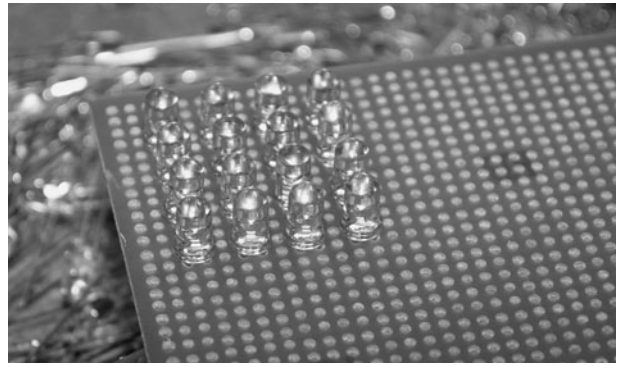

Figure 6-3 Using 5-mm LEDs, you can make an array with 16 LEDs per square inch.
Because the spacing on most prototyping boards is the same as the spacing on standard dual in line chip packages, you will be able to insert the 5-mm LEDs to create arrays with 16 LEDs per square inch, skipping one hole between each LED. Using 3-mm LEDs would allow insertion without skipping a hole, but this size of LED is almost impossible to find with an infrared output. Your array can also have any number of rows and columns, but usually a square is best for the most even field of view. Another idea is to base the size of the array on the wiring requirement, using the number of LEDs in series as the width or depth of the array. For instance, if you have 1.2-volt (V) LEDs, and plan to run 10 of them in series to make an even 12-V power supply, then you could make your array with 10 or 20 LEDs across and as many parallel rows as you have power for. A 10×10 array will be large enough to light up a small room for practically any video camera (Figure 6-3).